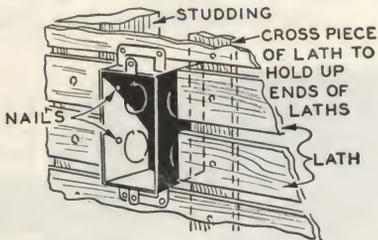

Fig. 8-12. Switch boxes may be nailed to the studding. Use care so that the front edge will later be flush with the plaster.
**Mounting Switch Boxes:** There are many ways of mounting a switch box. The simplest way is to nail it to one of the studs, if there happens to be one at the right location, as shown in Fig. 8-12. The important point to watch is to mount the box so that after plastering, the front edge of the box will be flush with the plaster.